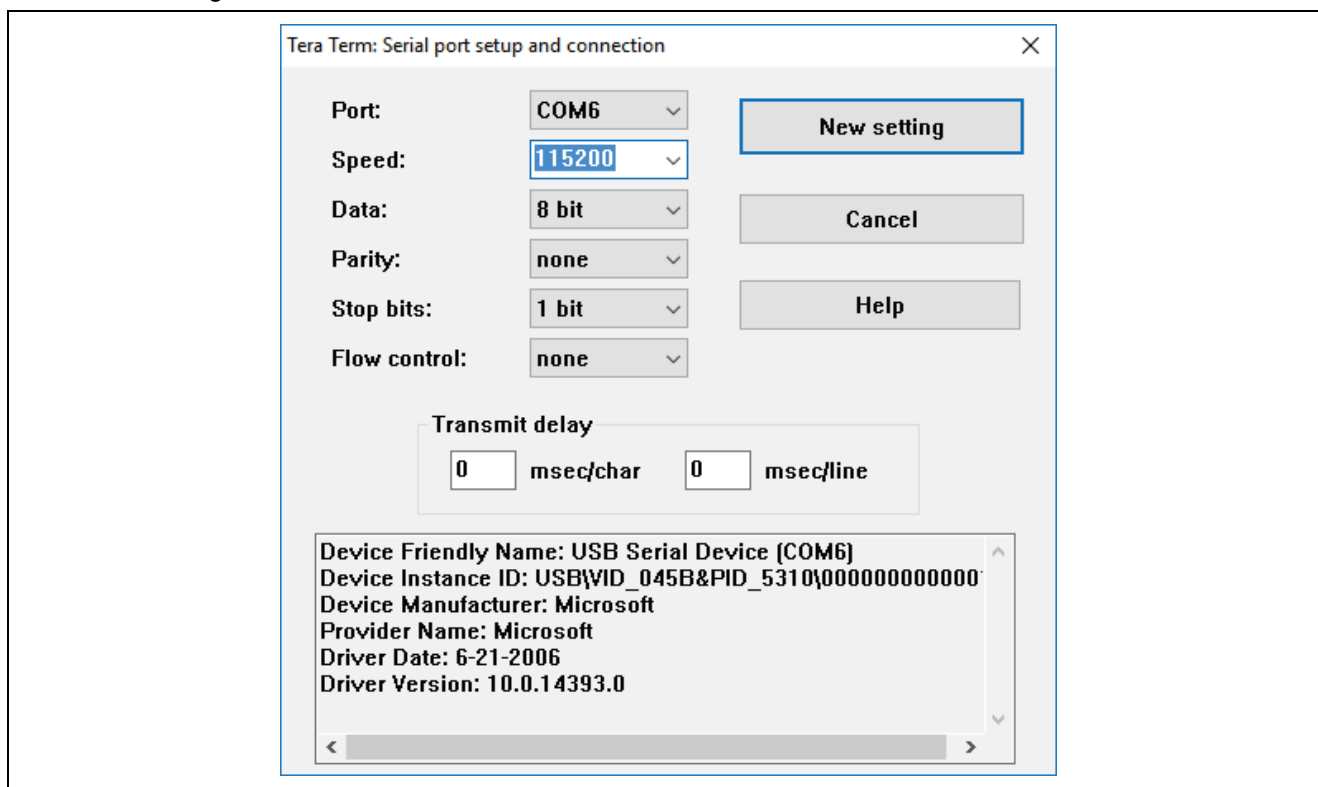

Figure 7. Selecting 115200 on the Speed Pulldown
3. Using the **Setup** menu pull-down, select **Serial port...** and ensure that the speed is set to **115200**, as shown in Figure 7.